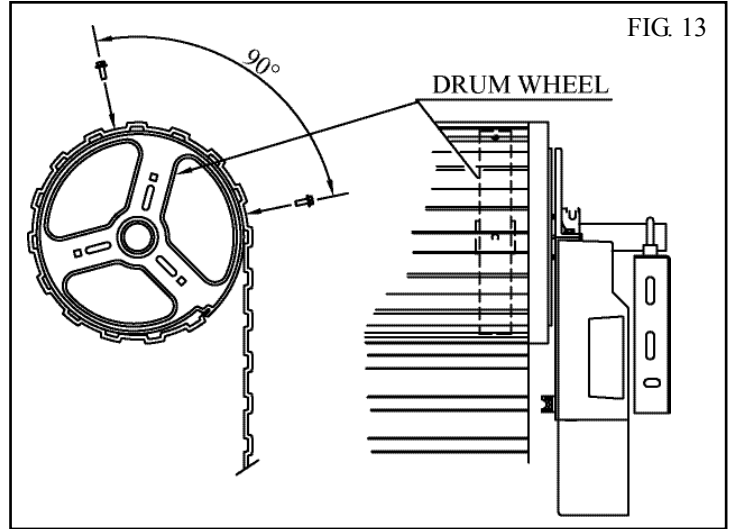

FIG. 13
1. With the door in the fully closed position, mark the curtain (Fig. 13) on both ends of the door.
2. Open door slightly to have access to the marked positions. Secure the curtain to drum wheel using self drilling screws (two on each end). The screws should be at least 90 degrees apart (Fig. 13).
1. With the drive assembly in manual mode (Fig. 13) move the door up by hand to an approximately mid open position.